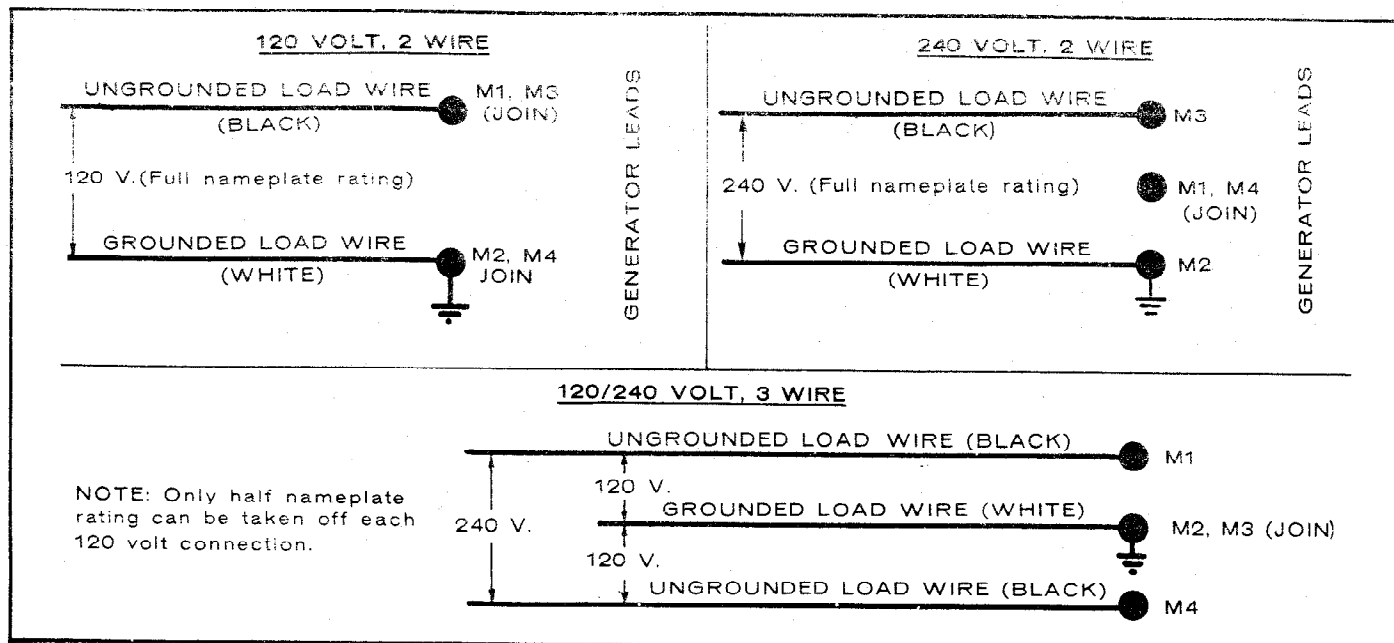

FIGURE 4. LOAD CONNECTIONS
The set nameplate shows the electrical output rating of the set in watts, volts and cycles. The wiring diagram shows the electrical circuits and connections necessary for the available output voltage. Also see Figure 4.
**Voltage Selection on Reconnectable Single Phase Generators:** These units are reconnectable for use as 120/240 volt, 3 wire; 120 volt, 2 wire; or a 240 volt, 2 wire power source (see Figure 4). Use the connection for two wire service when one load exceeds 1/2 the rated capacity. Balance the load when connecting for three-wire service.